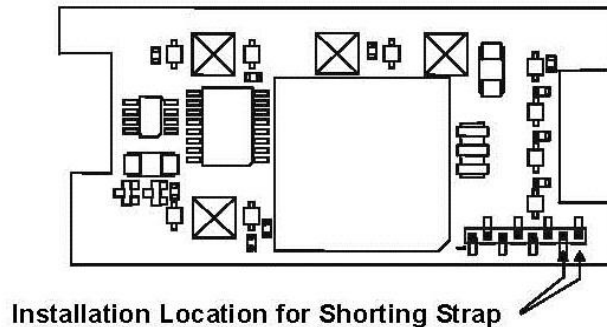

Figure 7, AP033 Logic Board
7. Adjust DC Bal (R36) on the probe tip (Figure 7) to obtain a DMM reading of 0 V \pm 10 mV.